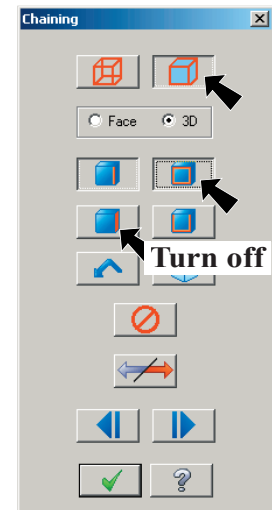

Fig. 40
Step 7. Click the **Solids** button  in the Chaining dialog box, Fig. 40.
Step 8. **Turn off Face** button  and keep **Loop** button  on (depressed) in the Chaining dialog box, Fig. 40.